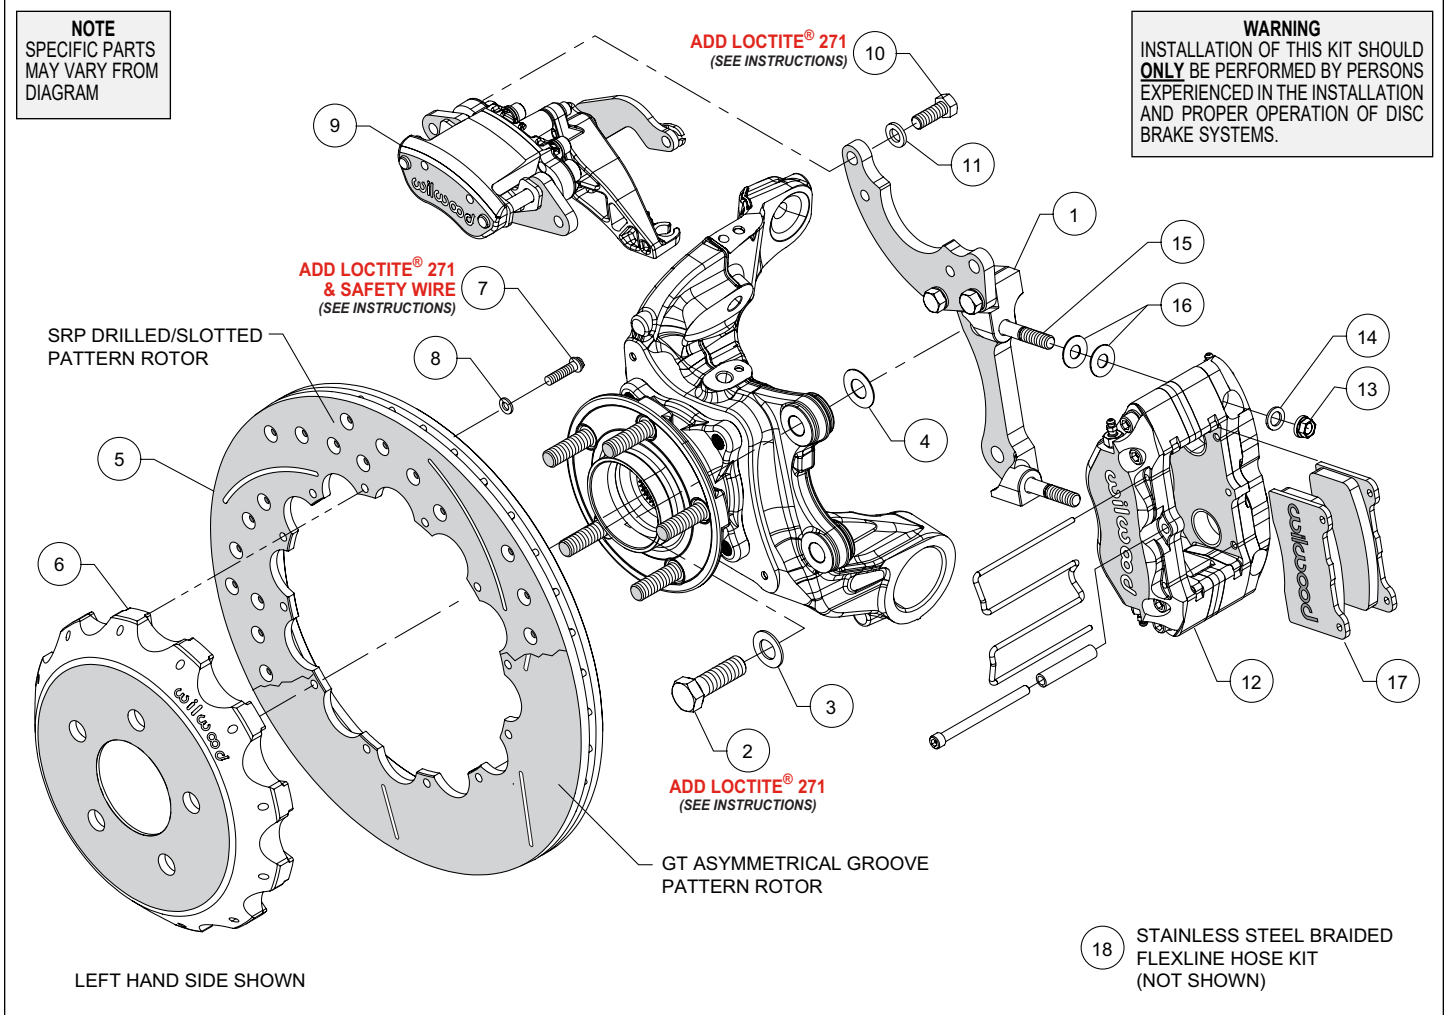
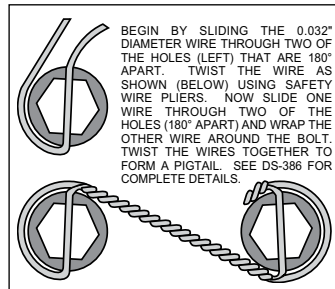

Figure 1. Typical Installation Configuration
Figure 3. Safety Wire Diagram
NOTE: Numbers in parenthesis refer to the parts list and Figure 1 on the preceding pages.
- The caliper mount bracket (1) should initially be installed with clean, dry threads on the mounting bolts. Orient the bracket as shown in Figure 1, and Photo 1, and install using bolts (2) and washers (3). Initially place one .029" thick shim (4) on each bolt between the bracket and upright, Figure 1. Temporarily tighten the mounting bolts. **NOTE:** The bracket must fit squarely against the mount bosses on the upright. Inspect for interference from casting irregularities, machining ridges, burrs, etc. Later, after the caliper alignment has been checked, the mount bolts will be secured using red *Loctite*® 271.
- Orient the rotor (5) and the hat (6) as shown in Figure 1 and Photo 2. Attach rotor to hat using bolts (7) and washers (8). Apply red *Loctite*® 271 to the bolt threads and torque to 155 in-lbs using a criss-cross pattern. For an added measure of security, the bolts may be safety wired using standard 0.032 inch diameter stainless steel safety wire as shown in Figure 3. Please refer to Wilwood's data sheet DS-386 (available at www.wilwood.com/Pdf/DataSheets/ds386.pdf) for complete safety wire installation instructions.
- Initially place two .035" thick shims (16) on each stud as shown in Figure 1 and Photo 4. Mount the caliper (12) onto the bracket (1) using lock nuts (13) and washers (14), Figure 1. Temporarily tighten the lock nuts and view the rotor through the top opening of the caliper. The rotor should be centered in the caliper, Photo 5. If not, adjust by adding or subtracting shims (4) between the bracket and the mounting bosses. Always use the same amount of shims on each of the two mounting bolts. Once the caliper alignment is correct, remove the bracket mounting bolts one at a time, apply red *Loctite*® 271 to the threads, and torque to 77 ft-lb.
- Insert the brake pads (17) into the caliper with the friction material facing the rotor (5), as shown in Figure 1 and Photo 6. Check that the top of the brake pad is flush with the outside diameter of the rotor, Photo 7. If not, adjust by adding or subtracting shims (16) between the caliper and the bracket. After the caliper pad height is set, torque the caliper lock nuts (13) to 30 ft-lb. Secure the pads in place using the pad clip retainer as well as the center bridge pad retainer tube and bolt, Photo 8. The bolt should be snug without play in the tube. Be cautious not to over tighten.
- Mount the parking brake caliper (9) onto the top section of the caliper mounting bracket (1) using bolts (10) and washers (11), as shown in Figure 1 and Photo 9. Apply red *Loctite*® 271 to bolt threads, and torque to 30 ft-lb